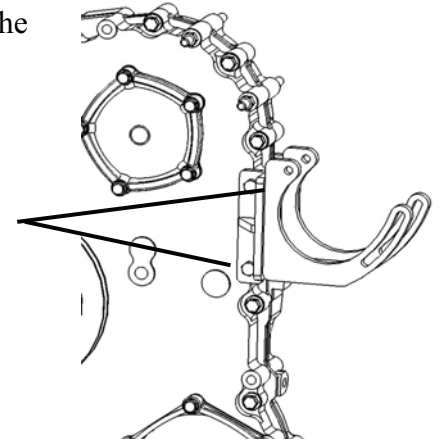

FIGURE 1
2. Attach drain hose assembly to evaporator unit drain tubes with clamps provided. See figure 1
1. Clean around and clean out the two boss holes on the front of the engine. FIGURE 1
2. Install Compressor bracket with (2) M10 x 130mm bolt and nylock nuts.